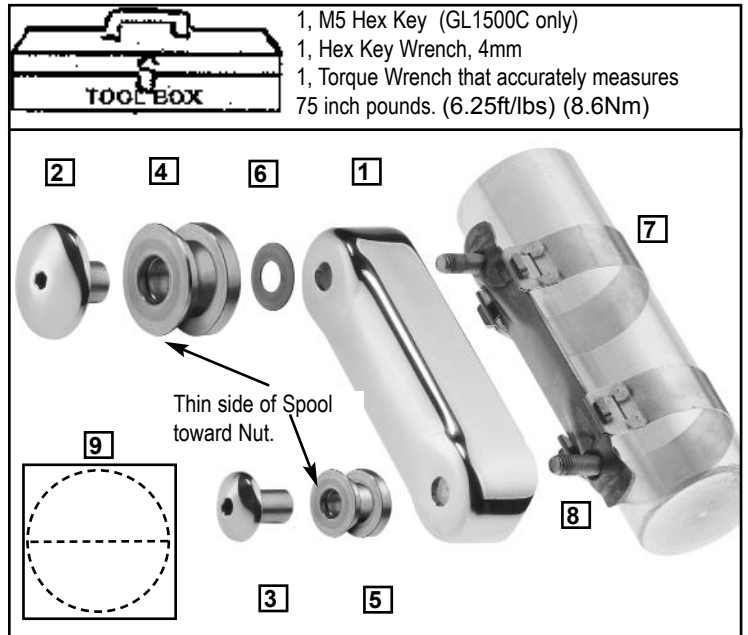

Figure 1.
4. Position the Mounting Cup onto the Spider Bracket so the studs protrude from the holes in the Mounting Cup. **Figure 1.**
5. Place a Brass Washer (6) onto the upper stud. **Figure 1.**
6. Push the large Upper Nut (2) into the large Upper Spool (4) so **the thin side** of the Spool is near the head of the Upper Nut. **Figure 1.**
7. Start the Upper Nut/Spool onto the upper stud. **Figure 1. (4mm Hex Key)**
8. Assemble the Lower Spool (5) and Lower Nut (3) so **the thin side** of the Spool is near the head of the Lower Nut.
ASSEMBLE MOUNTING CUP, SPOOL AND NUT, Figure 1, page 1.
5. Place a Brass Washer (6) onto the upper stud. **Figure 1, page 1.**
6. Push the large Upper Nut (2) into the large Upper Spool (4) so the thin side of the Spool is near the head of the Upper Nut. Thick side of Spool against the Mounting Cup.
8. Assemble the Lower Spool (5) and Lower Nut (3) so the thin side of the Spool is near the head of the Lower Nut. **Figure 1, page 1.**